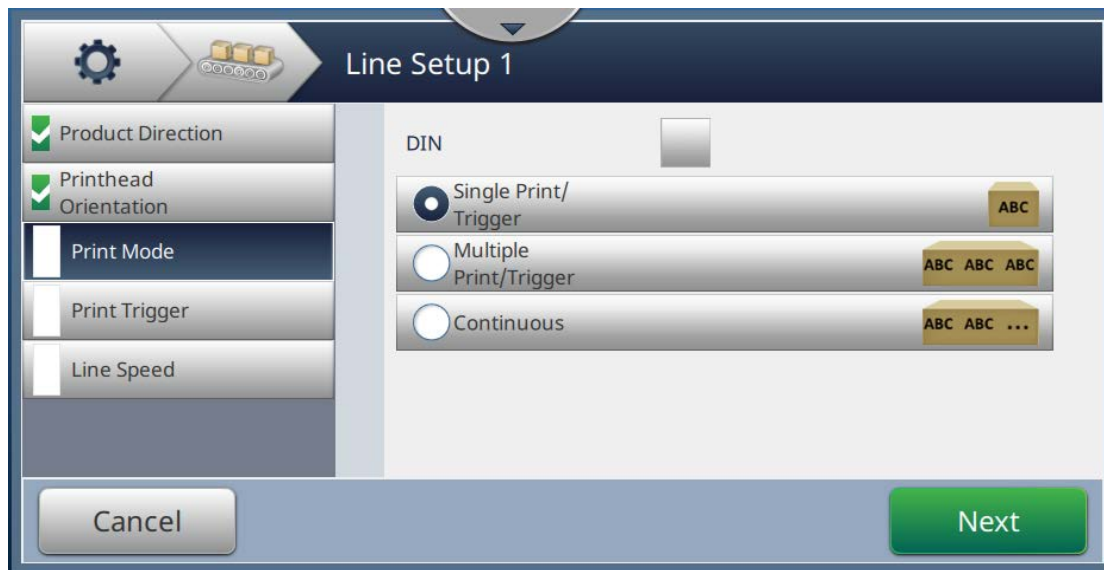

Figure 6-31: Line Setup - Print Mode
1. Touch the *Print Mode* on the Line Setup Setting screen as shown in Figure 6-31.
1. Select the *Multiple* option as shown in Figure 6-31. Touch the  button.
1. Select the *Continuous* option as shown in Figure 6-31 on page 6-55. Touch the